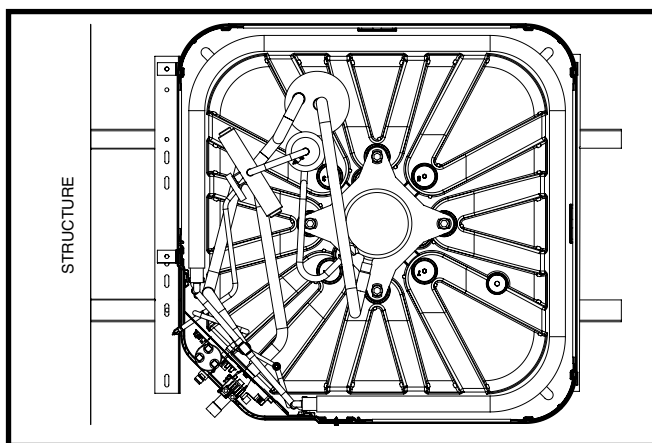

Figure 5. Large Footprint - Control Panel Right
- See Figure 5 for large footprint units with control panel on the right.